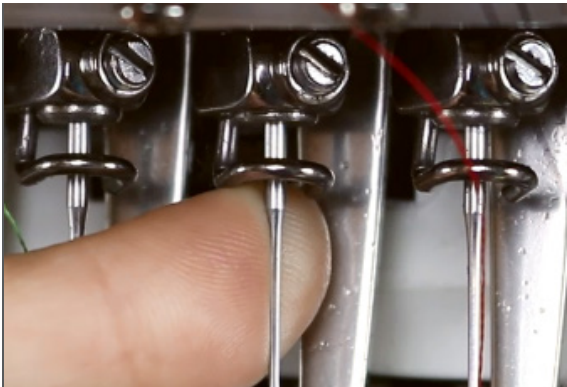

Figure 112
4. Needles have a long groove on the front and a short half-moon-shaped section called the scarf on the rear. With the long groove facing the front of the machine, insert the new needle by placing the point through the presser foot, and then inserting the shank into the needle bar until it can be inserted no further. **See Figure 112.**